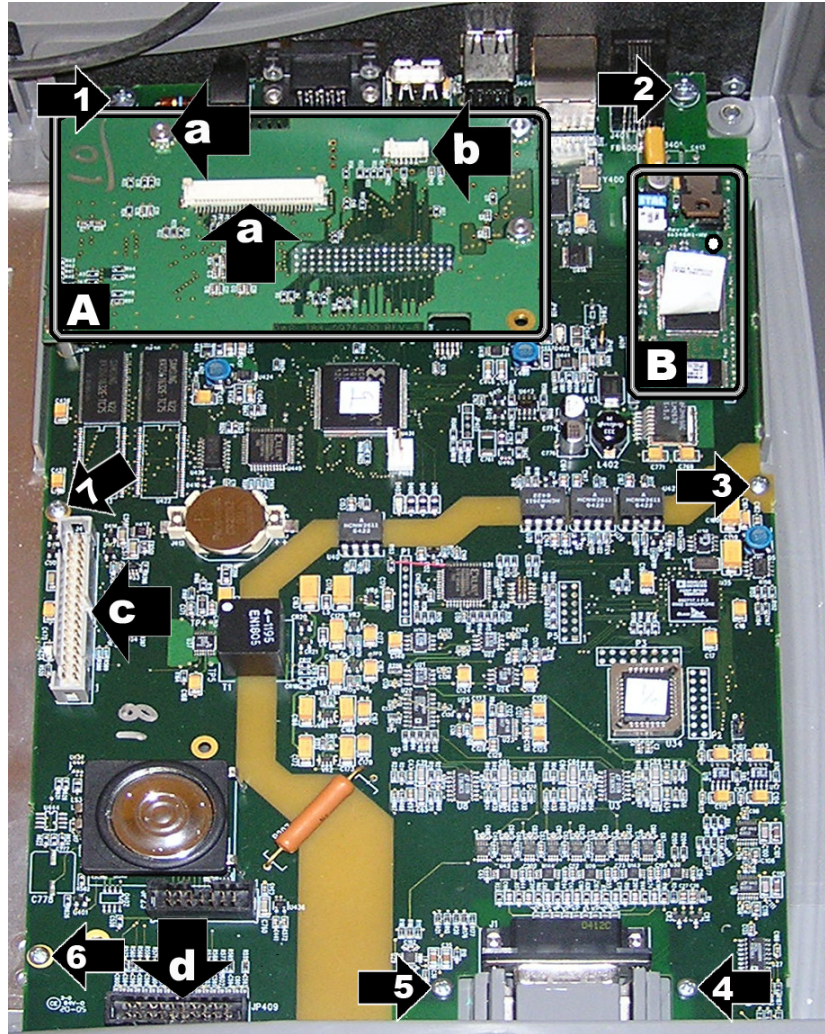

Figure 4: Mainboard Removal
1. Disconnect the keyboard cable connector from JP409 (labeled d in Figure 4).